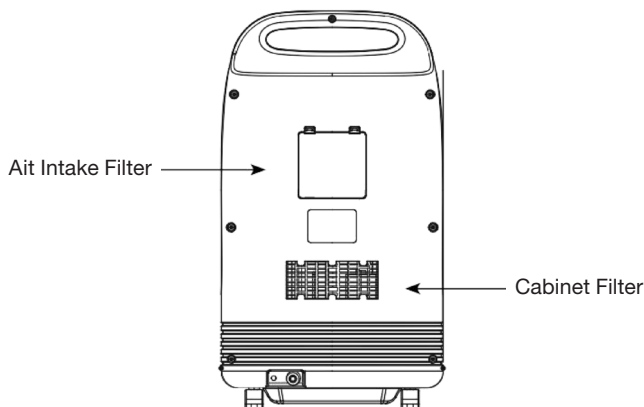

Figure 8
② Replacing the Air Intake Filter (Figure 8)